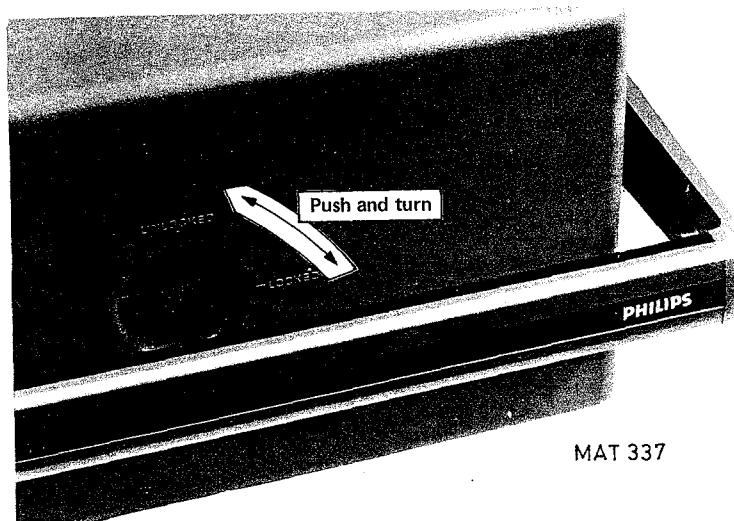

Fig. 2.2. Removing the front cover
- Removing : – Turn the knob in the centre of the cover a quarter of a turn anti-clockwise to the UNLOCKED position. (see fig. 2.2.)